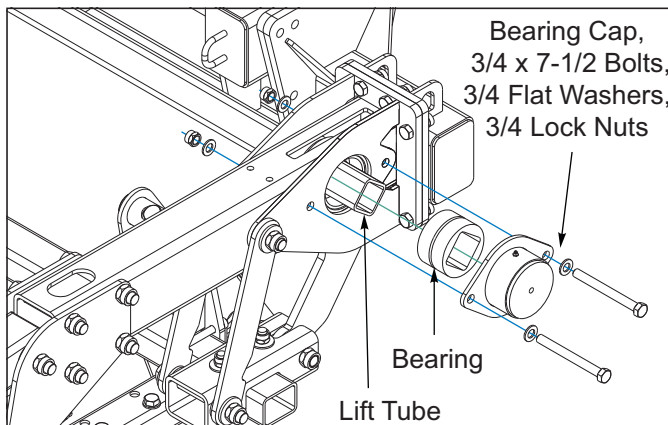

Figure 3-38: Bearing Cap Installation
4. Slide a bearing over the end of the disc leveler lift tube. Secure bearing with a bearing cap, 3/4 x 7-1/2 bolts, 3/4 flat washers and 3/4 lock nuts See Figure 3-38.